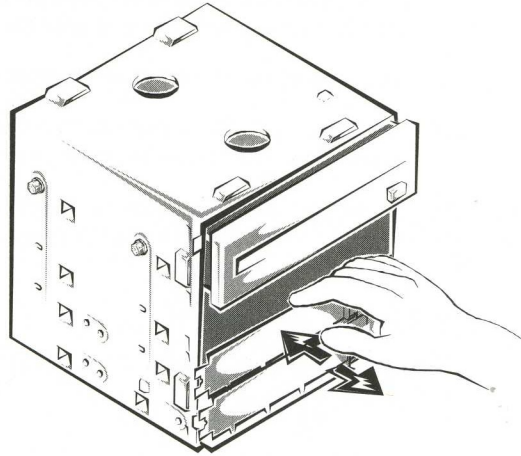

**Figure 3-8. Removing a 3.5-Inch Drive Bay Plate**
5. Remove the metal plate covering the bay as shown in Figure 3-8. Work the plate back and forth to break the perforations around the edges.
4. Remove the metal plates covering the 3.5-inch bays. Work the plates back and forth as shown in Figure 3-8 to break the perforations around the edges.